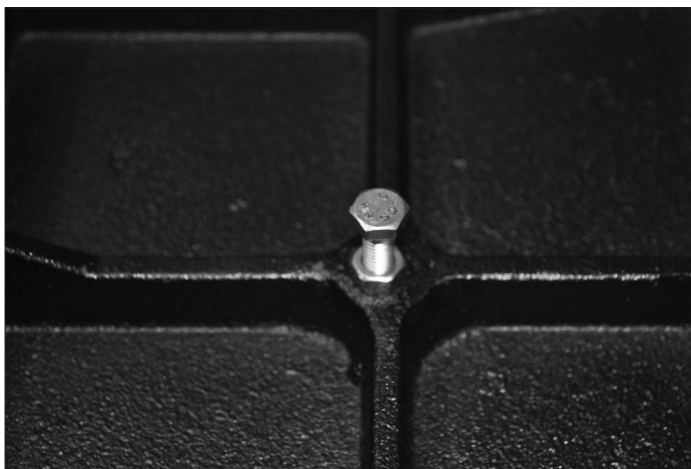

FIG. 5
1. Thread the M8x20 machine bolt (#76B) and M8 nut (#62B) to the pre-drilled and tapped hole in the bottom of the cast iron table. FIG. 5.